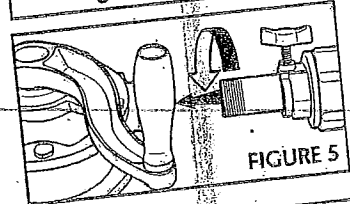

FIGURE 5
13. Thread the suction tube assembly into the bottom of the rotary pump body and then secure with a pipe wrench, if necessary. (Figure 5) **NOTE: Do not over tighten as this could crack the suction tube.**